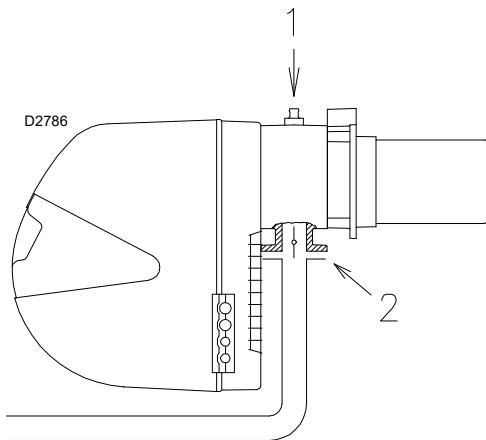

Fig. 17
- The main gas train must be connected to the burner head 1)(Fig. 17), using flange 2), gasket 3) and bolts 4) supplied with the burner.
- The gas train can enter the burner from the right or left side, depending on which is the most convenient, see Fig. 17.
- The pilot gas train must be connected to the gas connection 5)(Fig. 17) and can enter the burner from the right or left side.
Gas manifold pressure measured at test point 1)(Fig. 17), with:
- subtract the combustion chamber pressure from the gas pressure measured at test point 1)(Fig. 17).
- Gas pressure at test point 1)(Fig. 17) = 2.36" WC